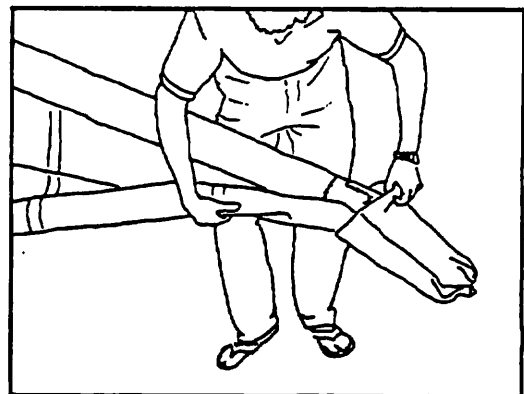

Figure 58
- 3) Before you de-tension the crossbar, remove the plastic wing tips, and the number one battens, and remove the first three (outboard most) cambered battens on each side. Roll up the sail at the wingtip and slide on the wingtip cover bag. Place the plastic wingtip fairings in the wingtip cover bags and secure the velcro tab on the bag. (Figure 58)